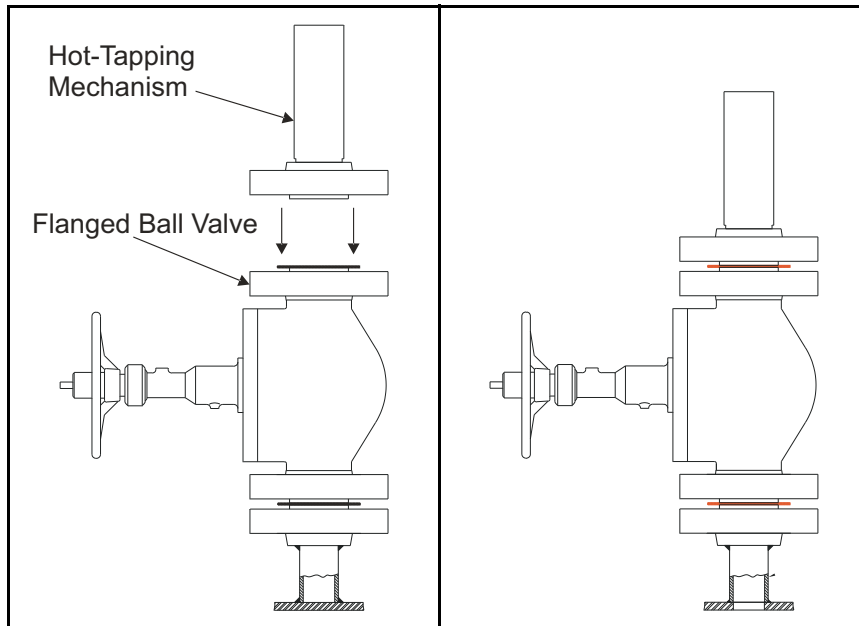

Figure 7: Securing the Hot-Tapping Mechanism
3. Bolt the hot-tapping mechanism to the 2 in. flanged ball valve, as shown in *Figure 7* below.